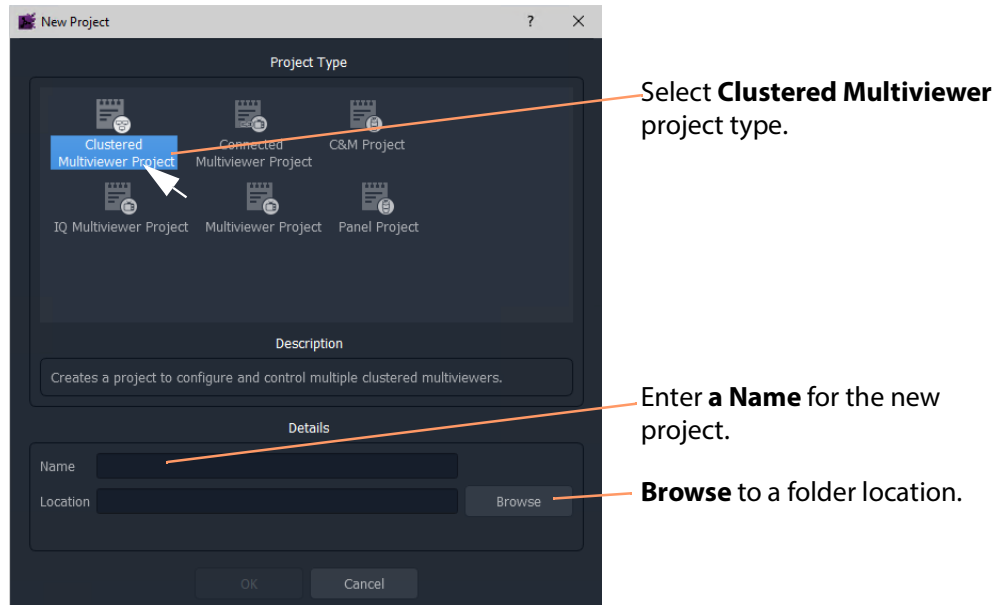

Fig. 15-3: New Project Dialog
- 3 Select the **Clustered Multiviewer** project type. (See Figure 15-3.)